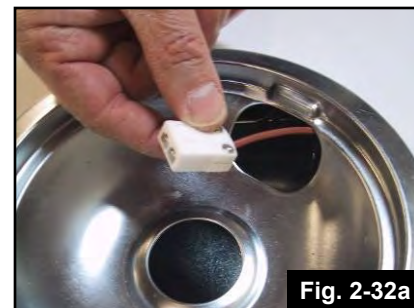

Fig. 2-32a
The thermocouple wires should have just enough slack (Fig. 2-32a) or length to allow the user to disconnect the thermocouple wire when cleaning the drip pans.
2. Re-install the drip pan as shown. (Fig.2-32a)